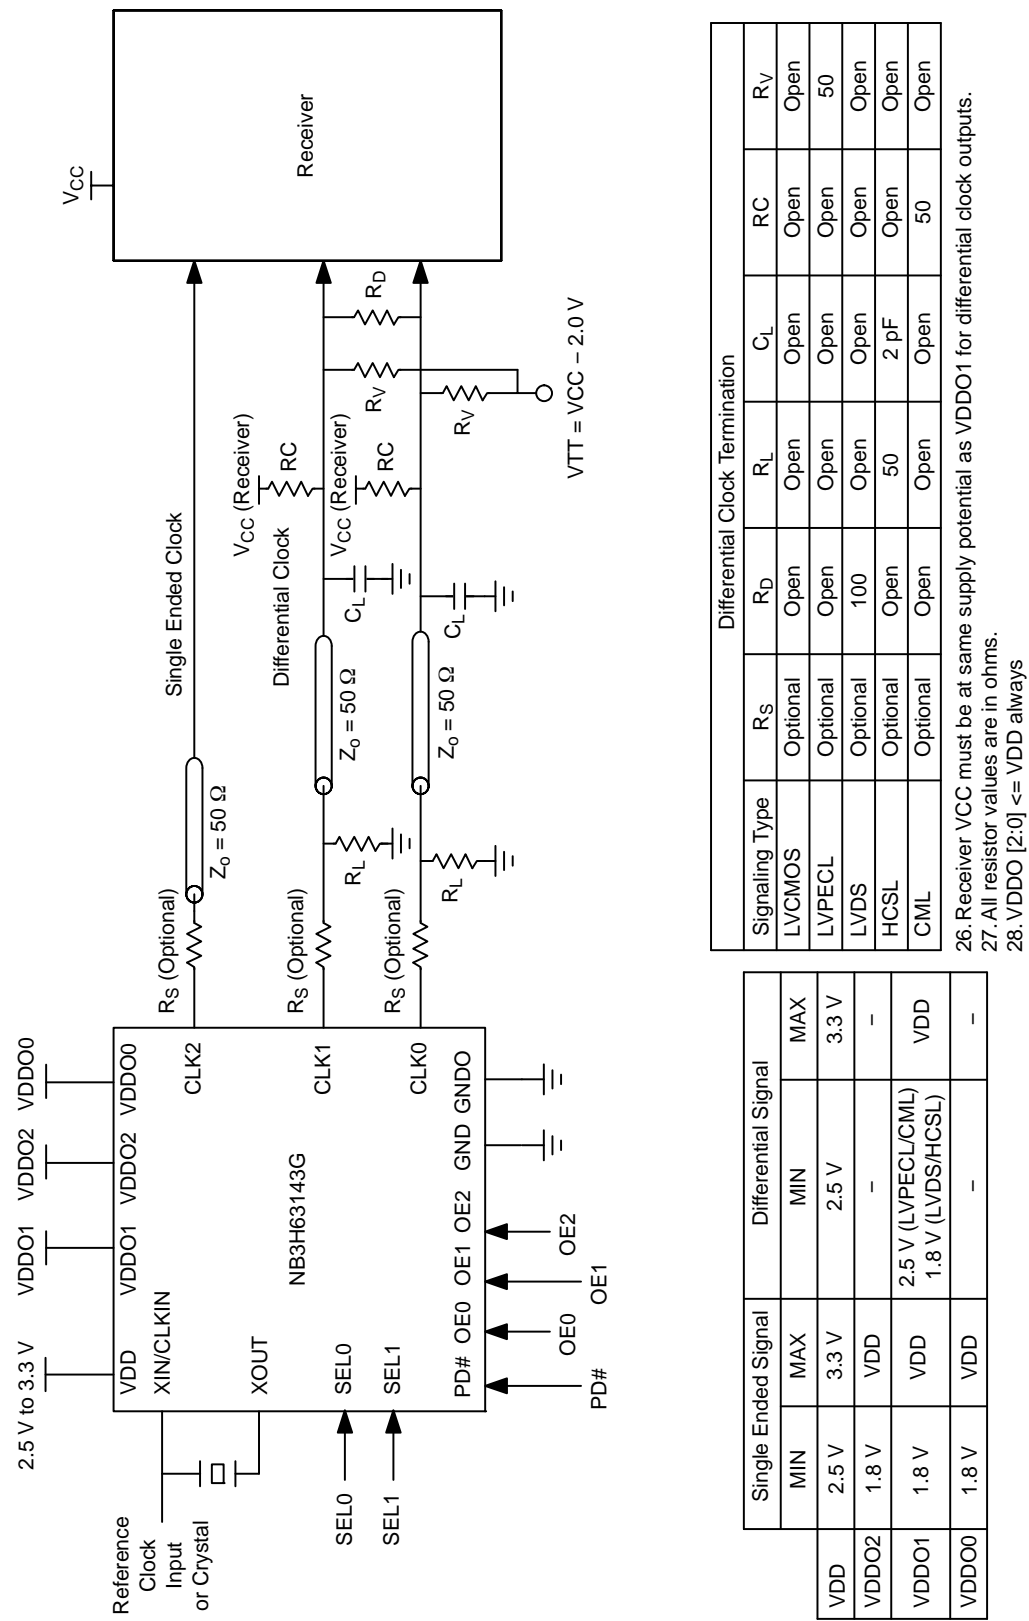

Figure 6. Typical Termination for Single Ended and Differential Signaling Device Load
- Measurement taken with single ended clock outputs terminated with test load capacitance of 5 pF and 15 pF and differential clock terminated with test load of 2 pF. See Figures 6, 7 and 12. Specifications for LVTTTL are valid for VDD and VDDO 3.3 V only.
20. Measurement taken from single ended clock terminated with test load capacitance of 5 pF and 15 pF and differential clock terminated with test load of 2 pF. See Figures 6, 7 and 12.